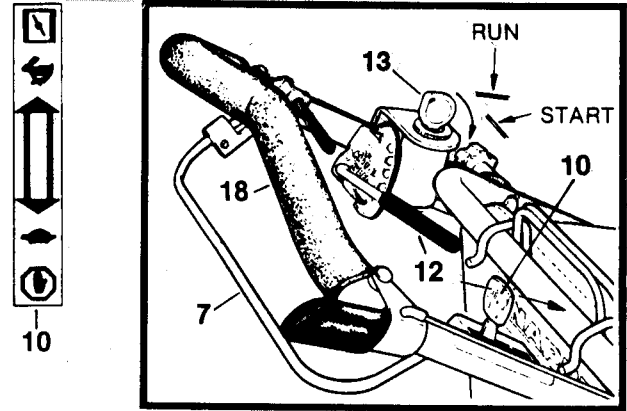

FIG. 4-ELECTRIC START
**ELECTRIC START:** The KEY/IGNITION switch (13) has two positions - RUN & START. The engine **CAN NOT** be stopped at the switch! Stopping the engine is accomplished by releasing the BLADE CONTROL. Refer to FIG. 4.
1. Move ENGINE CONTROL lever (10) to START (CHOKE) position.
2. Hold BLADE CONTROL (7) firmly against UPPER HANDLE (18) - otherwise the engine will NOT start.